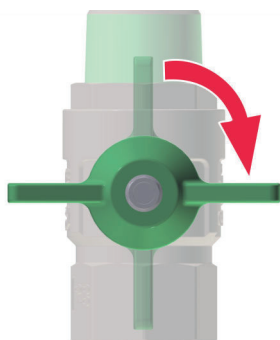

Fig. 47: Closing the ball valves
1. ➔ Close all the ball valves (Fig. 47).